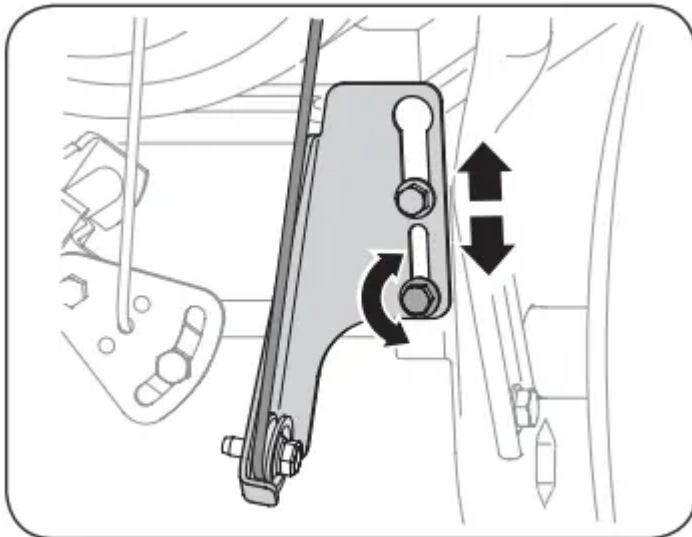

Figure 63
2. Loosen the lower hex bolt on the drive cable bracket. See Figure 63.